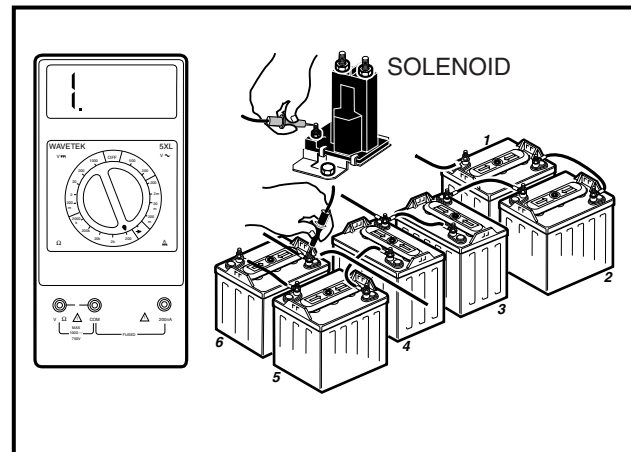

Figure 11-6 Accelerator Pedal Limit Switch Test
2. Place the red (+) probe of the multimeter (set to 200  $\Omega$ ) on the terminal of the green wire at its connection on the activating coil post of the solenoid, and place the black (–) probe on the negative (–) post of battery no. 6 (**Figure 11-6, Page 11-9**). With the accelerator pedal fully up (not pressed), the reading should be no continuity.
5. Also make sure the 18-gauge green wire is connected to the normally closed (NC) terminal of the limit switch, and the 18-gauge black wire is connected to the common (COM) terminal. There should be no wire attached to the normally open (NO) terminal.